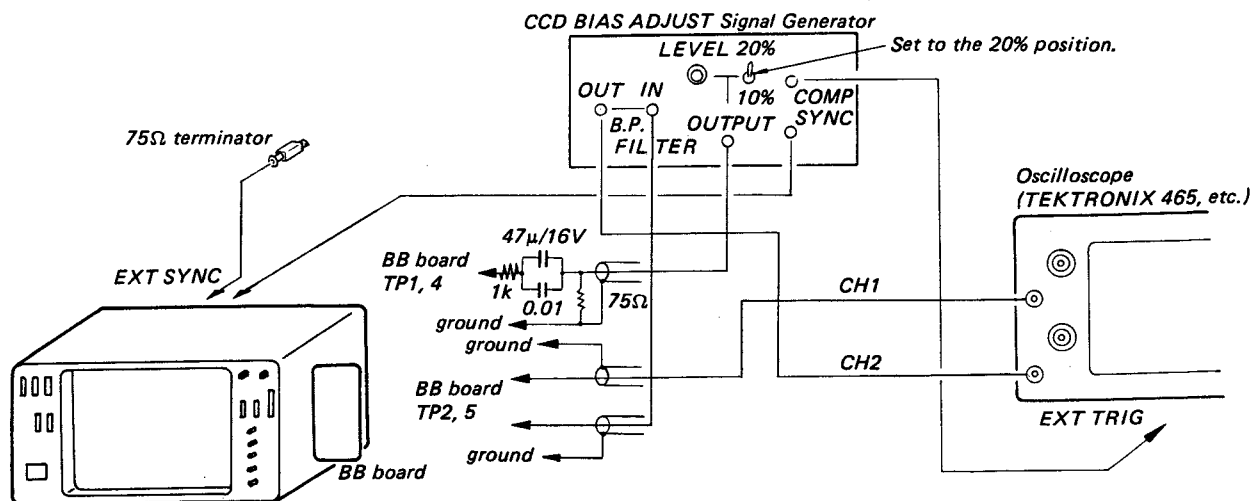

Fig. 5-105.
1. Complete the connections as shown in Fig. 5-105.